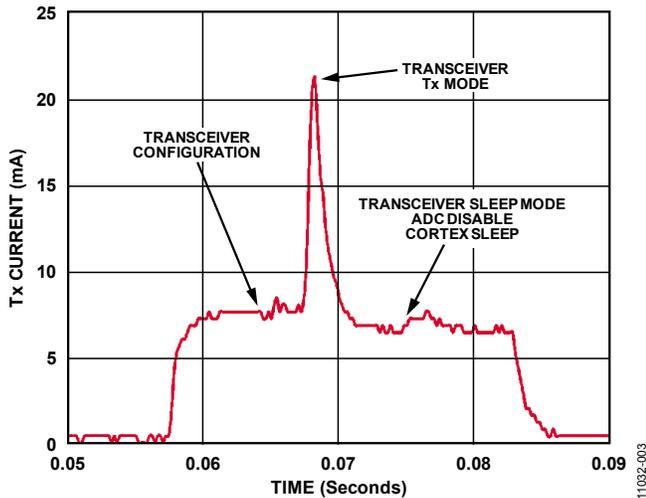

Figure 3. Wireless Data Acquisition System Power Consumption for One Transmission Sequence
Figure 3 shows the power consumption vs. time of a single data transmission sequence. In this circuit, the differential power amplifier (PA) was used at maximum power (10 dBm). The frequency of operation was set to 433 MHz. At 10 dBm output power, the PA consumed in the order of 21 mA.
The amount of time the transceiver transmits at maximum power is minimized by using the maximum ADuCRF101 data transmission rate of 300 kbps. The power consumption can be reduced further by reducing the output power of the PA. The optimal PA output power depends on the transmission distance required in the application. From Figure 3, the average power used in a single transmission sequence in one 10 second period is 22 μ A. This translates into a CR2032 lithium battery lifetime of approximately 1.2 years. In reality, the lifetime of the battery can be longer because this example assumes a transmission occurs every 10 seconds and does not take into account the case where there is no wind and thus no transmissions.